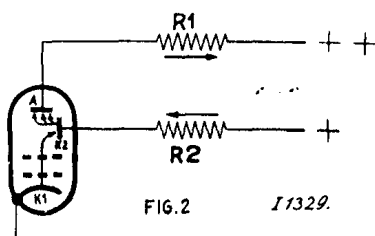

FIG. 2 I1329.
Owing to the bombardement of the secondary cathode (K2) further electrons are released from it and pass over to the anode (A). The quantity of electrons reaching A exceeds that leaving K1. Fig. 2 shows how the currents in R1 and R2 are directionally opposed. The EEL therefore provides for phase changing making it possible to apply a resistance coupling between that valve and the push-pull connected output-stage. Furthermore, with the very steep slope of the EEL no microphone pre-amplification is needed at all. There are no further fundamental changes in the scheme. R2h and C7 do not appear in the 2864 type; otherwise the circuiting of 2864 is exactly the same as that of the 2858 type. For the electrical values of the various components see page 2.